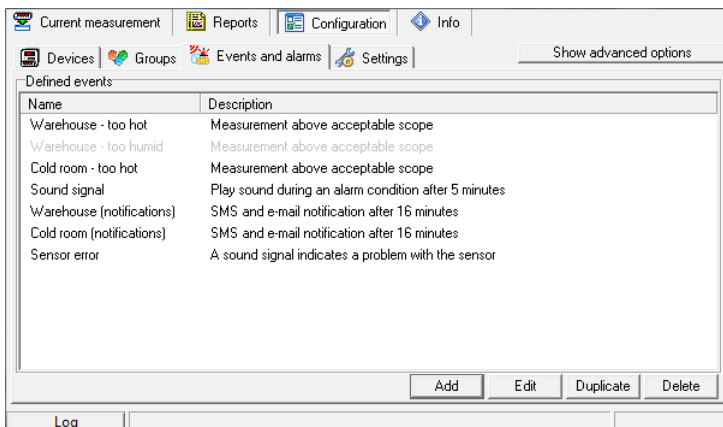

Figure 8.1. The list of events
- **Description** – it can be additional explanation of the event that may contain information about trigger sources, used alarm notifications, etc. This description is visible on the **Events and alarms** tab (Figure 8.1). It can also be used in the texts of alarm notifications;